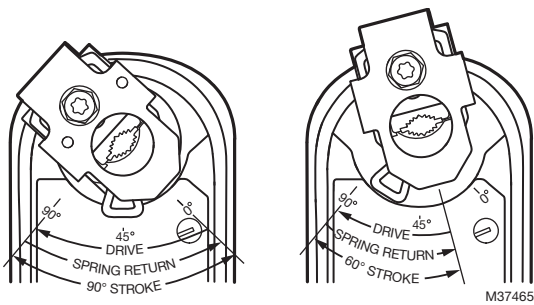

Fig. 6. Stroke reduction.
3. Rotate the coupling to the desired position, aligning it based on the stroke labeling. See Fig. 6.
EXAMPLE: Setting shaft coupling to an approximate fail-safe position of 30 degrees (as indicated on the housing) limits stroke to 60 degrees. (See Fig. 6)